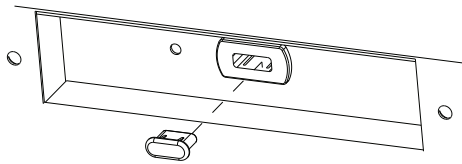

FIG. 2
2. Remove the silicone plug from the USB-C receptacle (see **Fig. 2**).